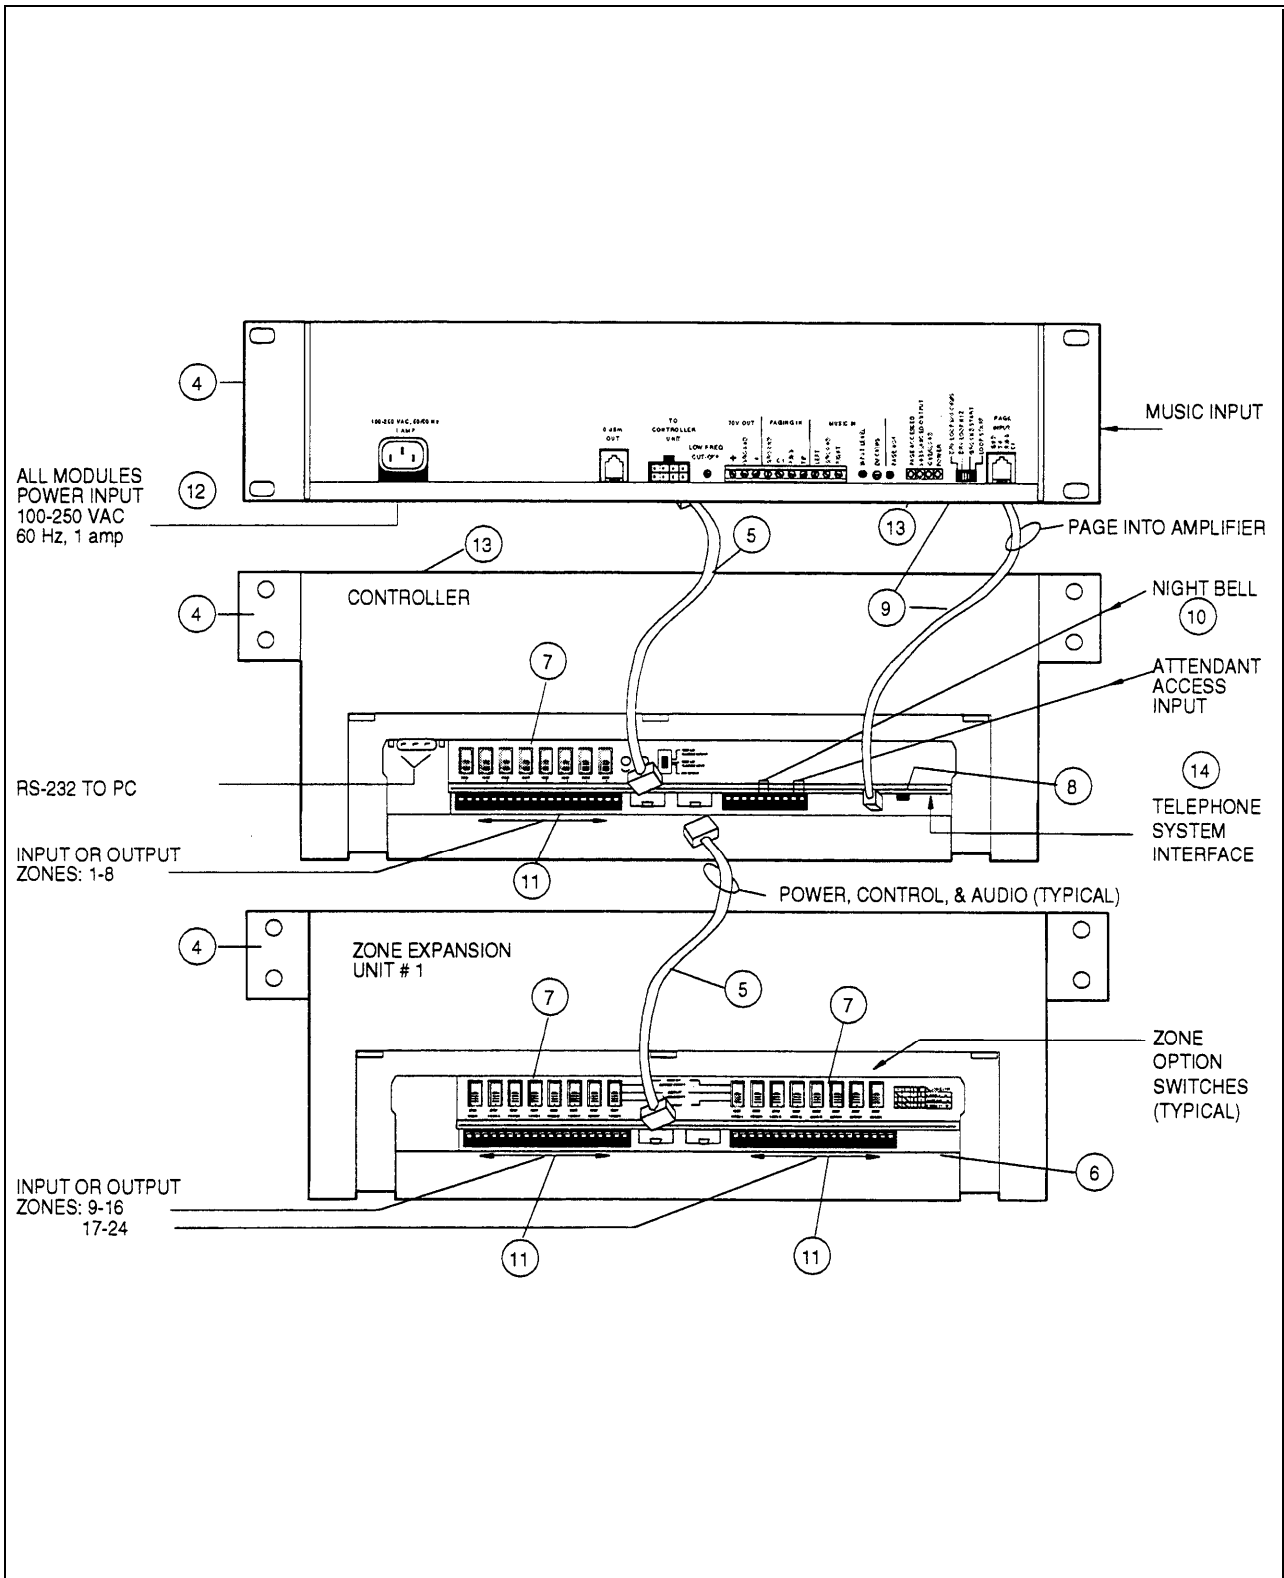

Figure 1-1. Hardware Installation Steps
*NOTE: The numbers in these steps match the numbers in figure 1-1.*
The following list provides an overview of the features of the PagePac Plus system, illustrated in figure 1-1, along with additional application capabilities.